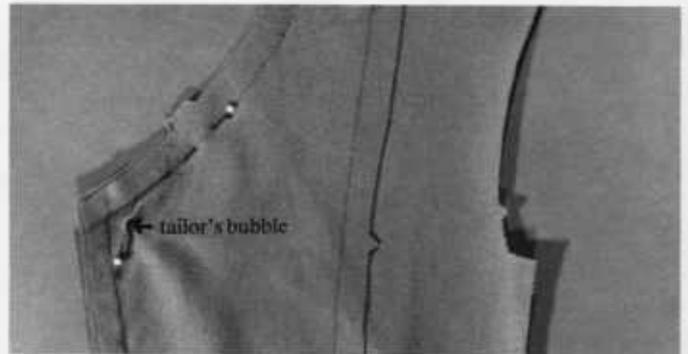
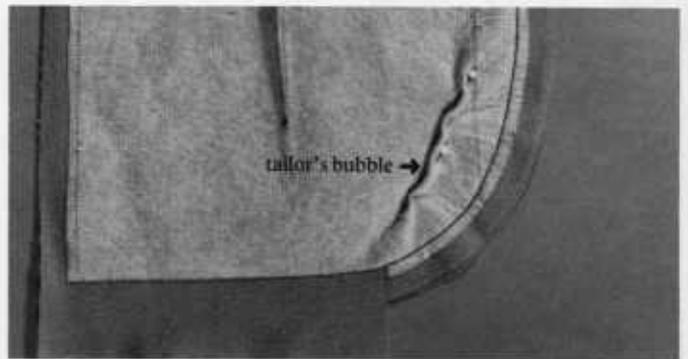

figure 53
figure 54
- Ease the facing by placing a pin to form a very small tuck called a tailor's bubble in the facing near the lapel tip (*figure 53*). Also place a pin to form a tailor's bubble on the garment (not the facing) side near the bottom edge at hem of jacket (*figure 54*).